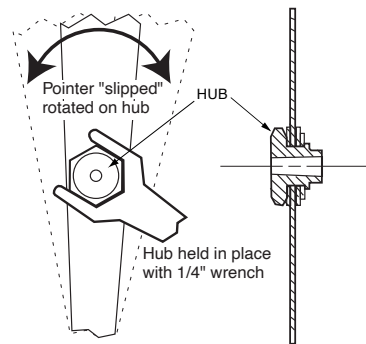

Figure 3-2. "Slipping" Pointer
2. If the zero indication is incorrect, remove the bezel and lens and reset the pointer by slipping pointer on hub by holding pointer and turning hub with wrench, as shown in Fig. 3-2.
3. To test for reverse travel, connect the pressure source to the low pressure (LP) DPU housing and vent the high pressure (HP) DPU housing. Apply pressures approximately 150% of the DP range. The pointer should move approximately 5 to 10 percent below zero.
4. To test for overtravel, connect the pressure source to the high pressure (HP) DPU housing and vent the low pressure (LP) DPU housing. Apply pressures approximately 150% of the DP range. The pointer should move approximately 5 to 10 percent above fullscale.